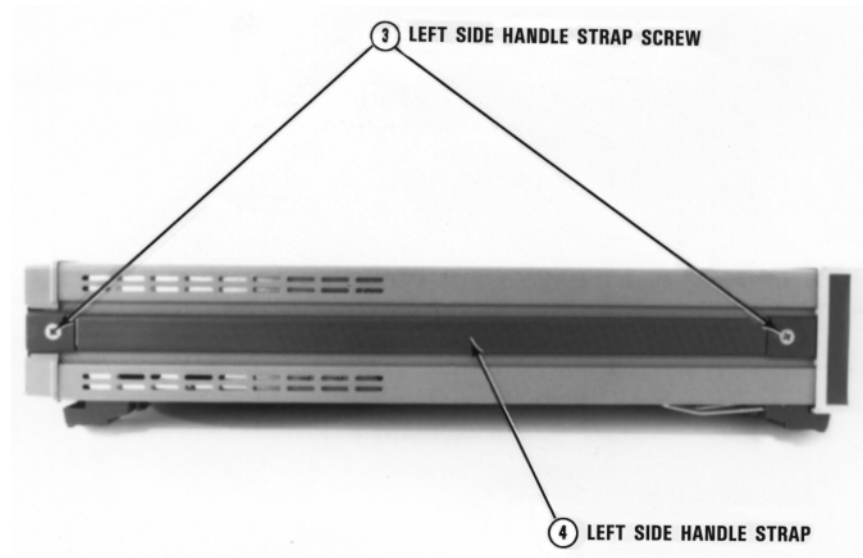

Figure 7. Remove/Install Left Side Handle
5. Refer to Figure 7. Turn the instrument so its left side faces you.
17. Refer to Figure 7. Reinstall the left side handle strap. Use the #1 Pozidriv to reinstall the side handle strap screws.